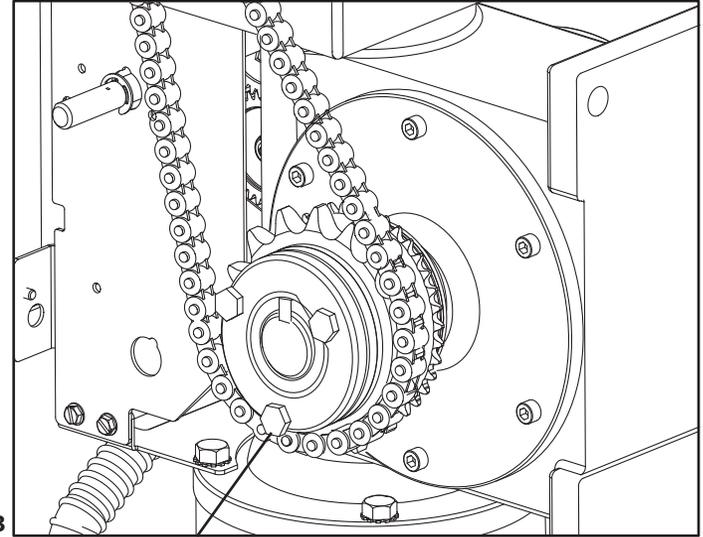

Figure 13
- 2) When making adjustments, be sure to turn all 3 adjustment bolts an equal amount. **Fig 13.**